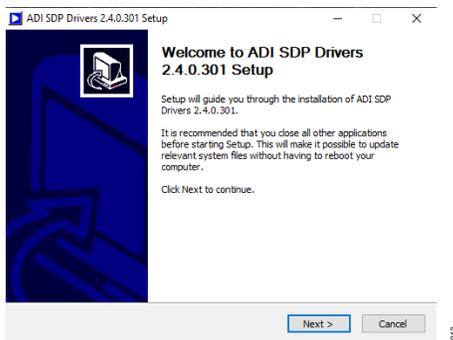

Figure 13. SDP Driver Installation Wizard
- When the SDP drivers setup wizard appears, click **Next** (see Figure 13).